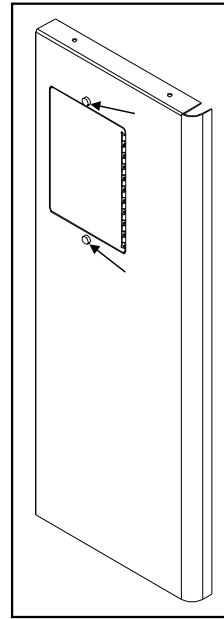

Figure 30: Right Panel
Place the circuit board control panel on the backside of the right surround panel so the hinge is on the outside and the top and bottom holes on the control panel line up with those on the surround. Attach using two (2) T-20 screws through the front of the surround into the circuit board control panel (see Figure 30).